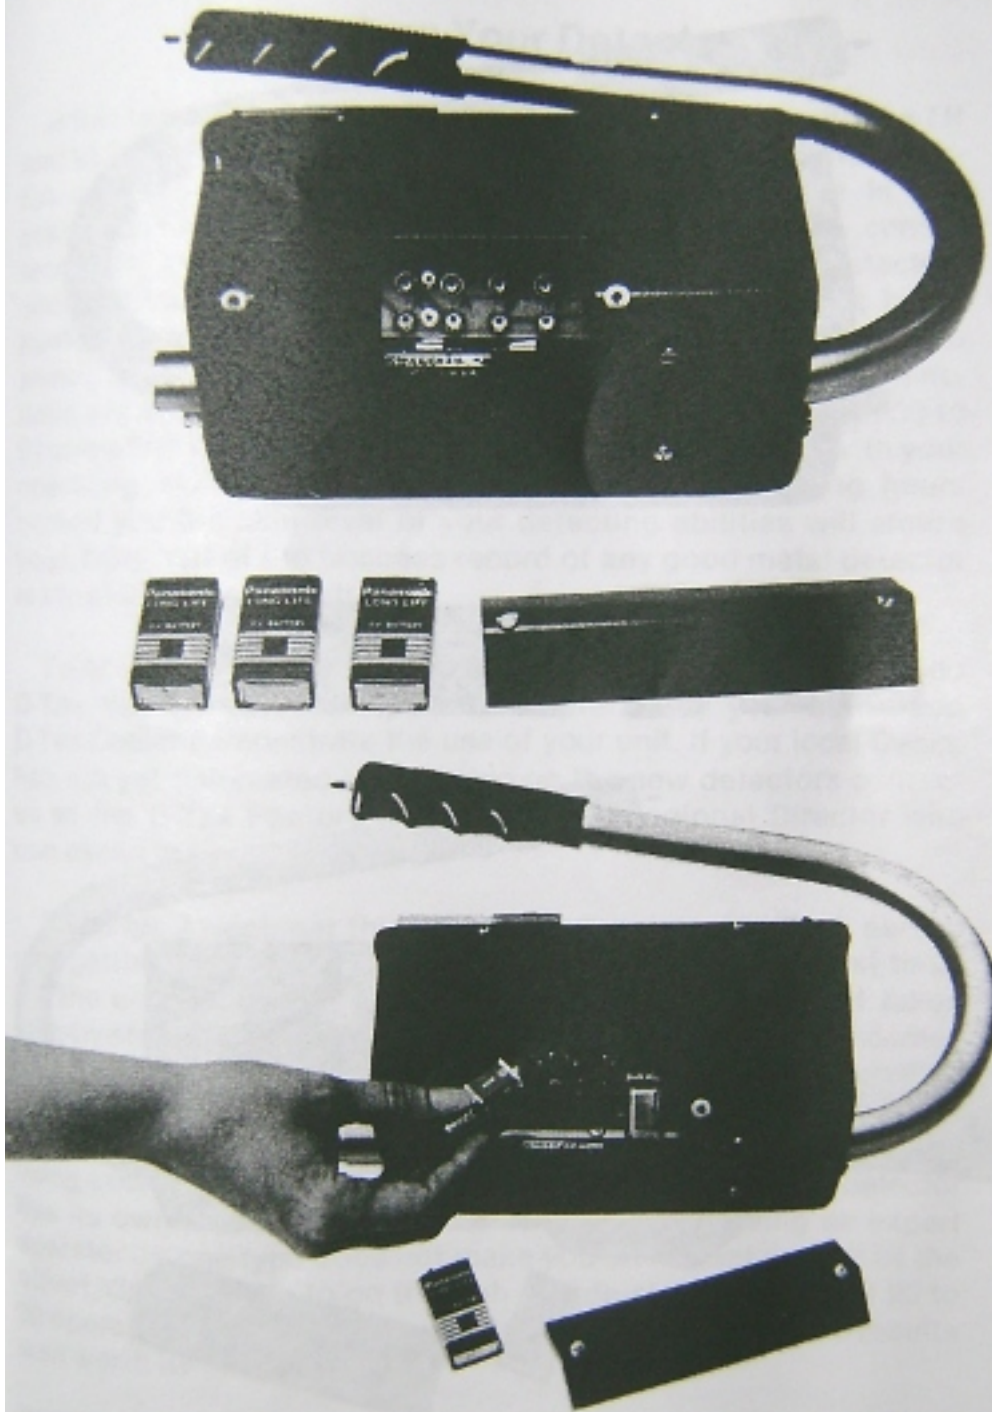

FIGURE 5 — For TK, MK, CK and RS-100 Models Only
| For TK, MK, CK & RS-100—Figure 5 | 11 |
6. **CHANGING BATTERIES (SEE FIGURE 5)**
6. CHANGING BATTERIES (SEE FIGURE 5)
CHANGING BATTERIES (SEE FIGURE 5)